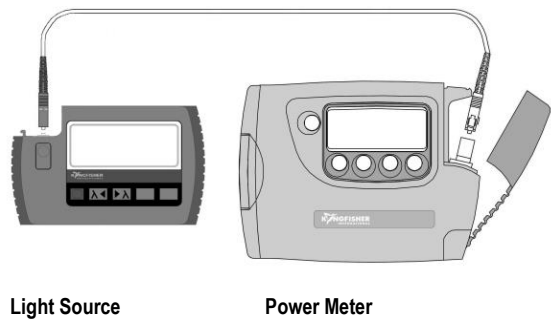

Figure 4. Test set-up for 9800 Light Source Short Term Stability Test
1. Connect the equipment as shown in Figure 4. For better stability, ensure that connector plugged into power meter has APC termination.